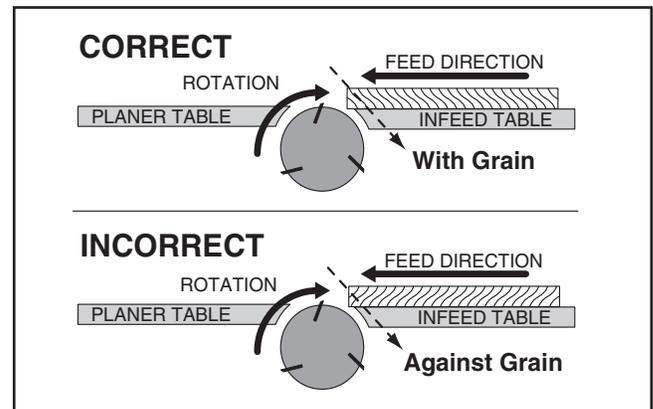

Figure 35. Proper grain alignment with lower cutterhead.
- **Grain Direction:** Cutting against the grain increases the likelihood of kickback, as well as tear-out on the workpiece. Cutting with the grain is described as feeding the stock into the lower cutterhead so the grain points down and toward you as viewed on the edge of the stock (see **Figure 35**).